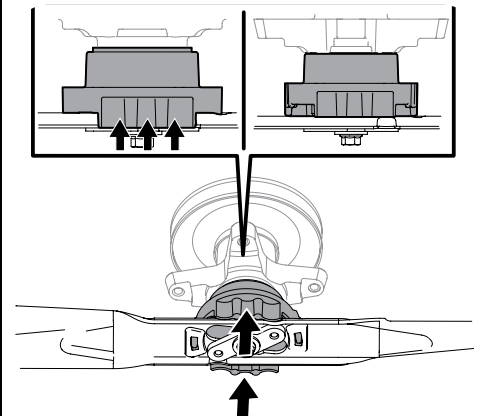

Figure 4-10
4. Push the blade upward against the blade adapter until the collar above rises. See Figure 4-10.